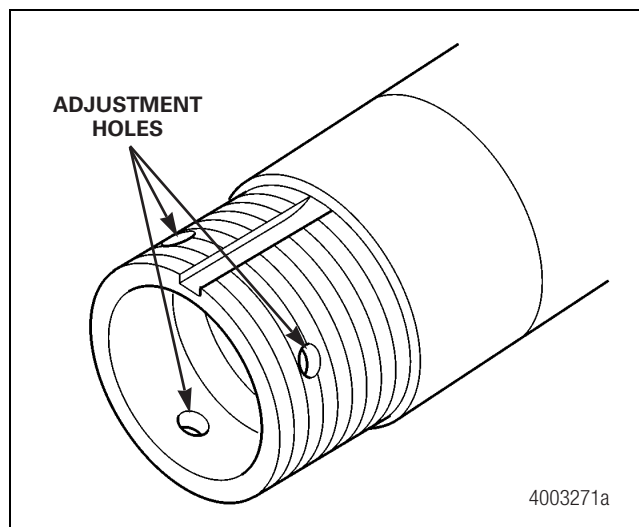

Figure 9.8
- The spindle, consisting of a "TP" style axle drilled with three adjustment holes. Figure 9.8.